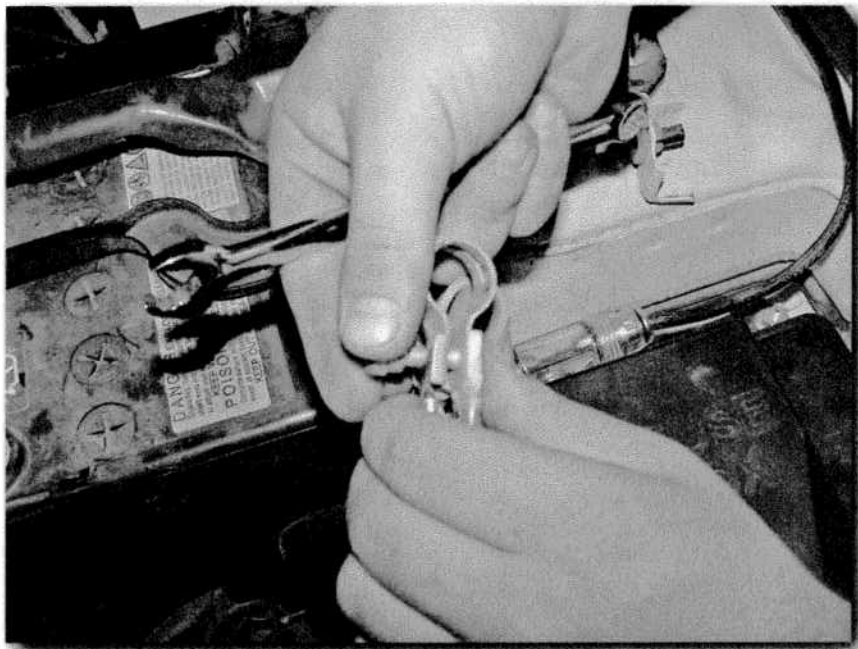

FIGURE 3-22: Unscrew the battery cable and attach the Street Wires ring connector.
3. Now take the car's battery cable and unscrew it and attach the ring terminal from the Street Wires short blue power cable to the battery connector, as shown in Figure 3-22.